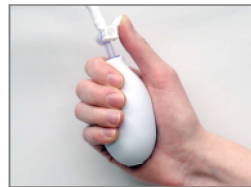

FIGURE 3:
6. Inflate pressure infusion bag by rotating the off portion of the valve/stopcock to the right. Pump inflation bulb until gauge reaches the proper pressure (300 mmHg) indicated in the green portion on the manometer (Figure 3).